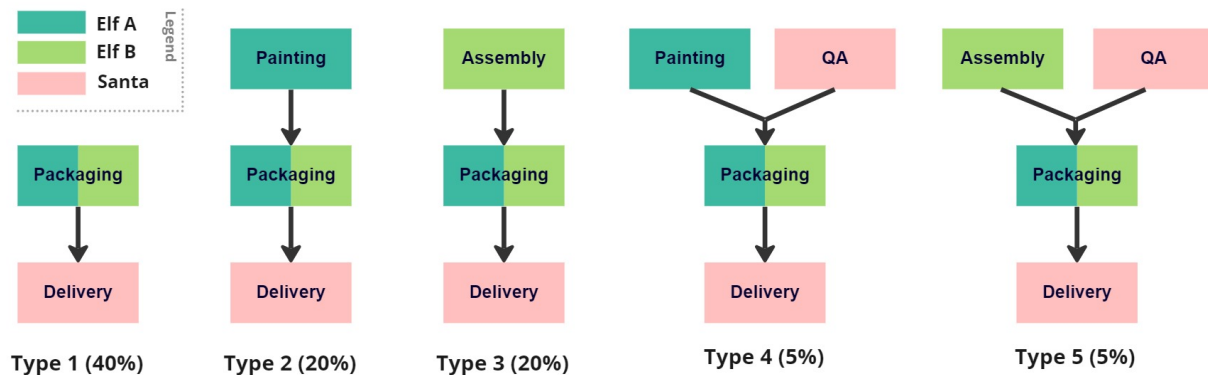

Figure 2: Task DAGs for every gift type
You are required to keep a log for the events and for each worker (elves and Santa), which will help you debug and test your code, as well as help to understand if Santa's plan can be implemented. The `events.log` should keep the task no (ID), gift no (ID), gift type (as in Figure 2), task type (painting (P), assembly (A), QA (Q), packaging (C), or delivery (D)), the time when the gift request arrived, the time when the task arrived, turnaround time